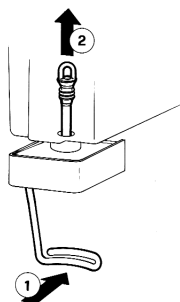

figure 3
- 7 **Pinch tube faucet:** push the dispensing handle (1) and take the pinch tube off from its
seat (2) (see figure 3).